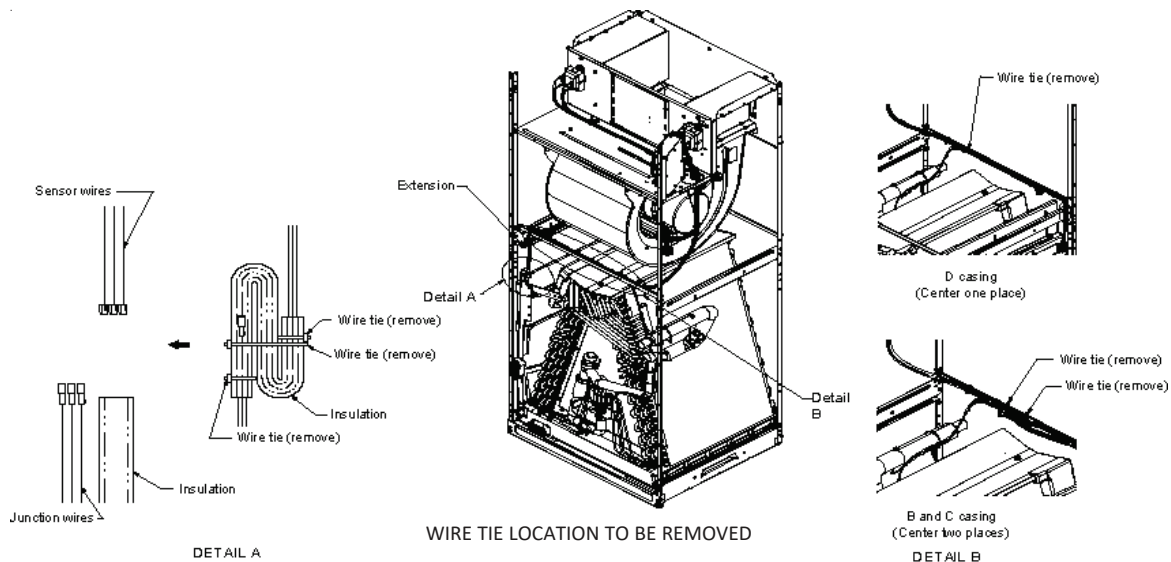

FIGURE 2-1
1. Before flipping the air handler, remove blower access panel and coil access panel. The coil access panel and tubing panel may remain screwed together during this procedure. Remove and retain the seven (7) screws securing the coil access panel to the cabinet and the six (6) screws securing the blower access panel to the cabinet.
2. Before removing the coil remove the wire ties holding the sensor wire harness to the center support. Remove the insulation covering the wire connectors and disconnect the wires. Do not cut or damage the insulation covering the junction connectors since it will be required to secure the wires once the change is complete. See Figures 2-1 and 2-2 for wire tie location.